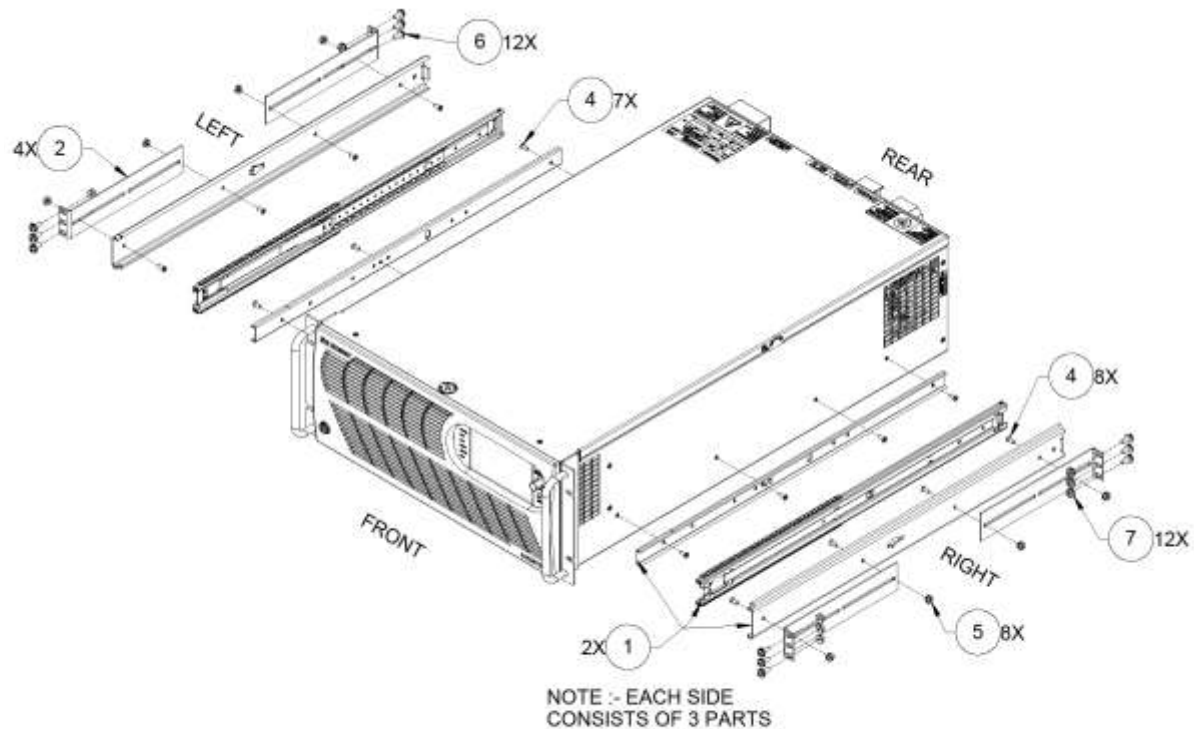

**Figure 3-1. Rack mounting**
The Mi-BEAM Series power supply is designed for mounting in a standard 19 in. (482.6 mm) equipment rack that is compliant to ANSI/EIA-310-D. If other instrumentation is mounted in the rack adjacent to the unit, there is no need for additional clearance above or below the source. It should be supported in the rack using appropriate L-brackets or rackmount slides. Refer to Figure 3-1 for typical rackmount installation. The rack mounting slide kit, part number K580351-01R consists of the following items:
**NOTE:** Item **#1** consists of three parts (item **#1A**, item **#1B** and item **#1C**) as shown in Figure 3-1.